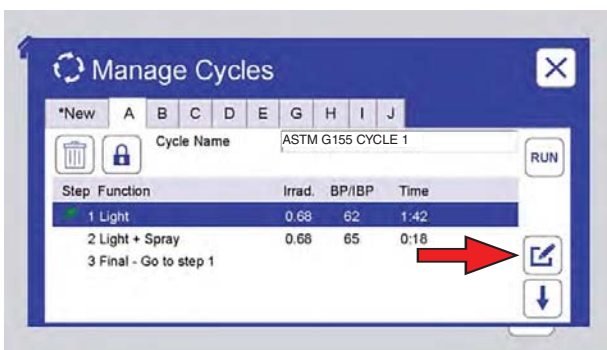
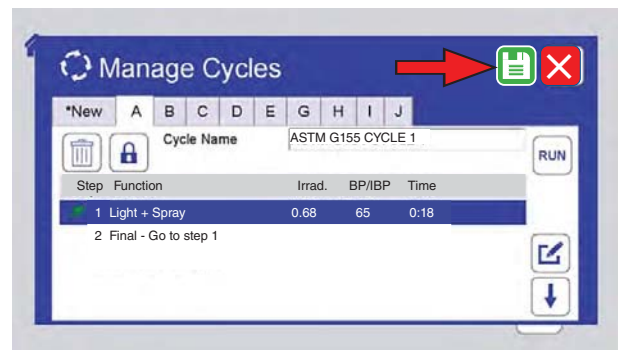

Figure 10.6.4a: For any cycle, a new step can be added before or after an existing step. Select the existing step then touch the Edit icon.
Figure 10.6.6d: Touch the save icon to save the edited cycle.
- Add, edit, or delete steps in a cycle (Figure 10.6.4a through Figure 10.6.6d). Pre-programmed test cycles cannot be edited (they can be deleted).